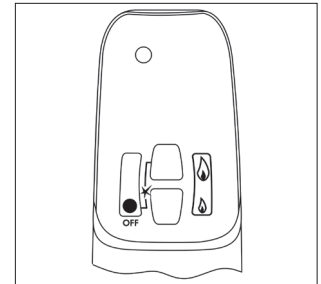

Figure 10: Standard RF Remote Handset
(see figures 10, 11, 12)
**Standard, Display, Timer/Thermostat RF Remote Handset** (see figures 10, 11, 12)
**Standard, Display, Timer/Thermostat RF Remote Handsets** (see figures 10, 11, 12)